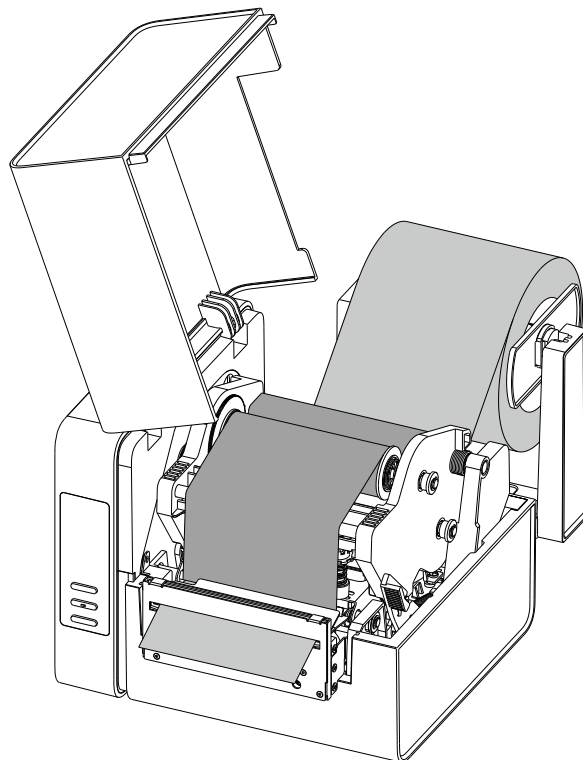

Figure 2-19 Cutter Mode
3. Load the media referring to operations under Standard Mode. Thread the label through the gap between the upper and the lower cutter blades as shown in Figure 2-19.